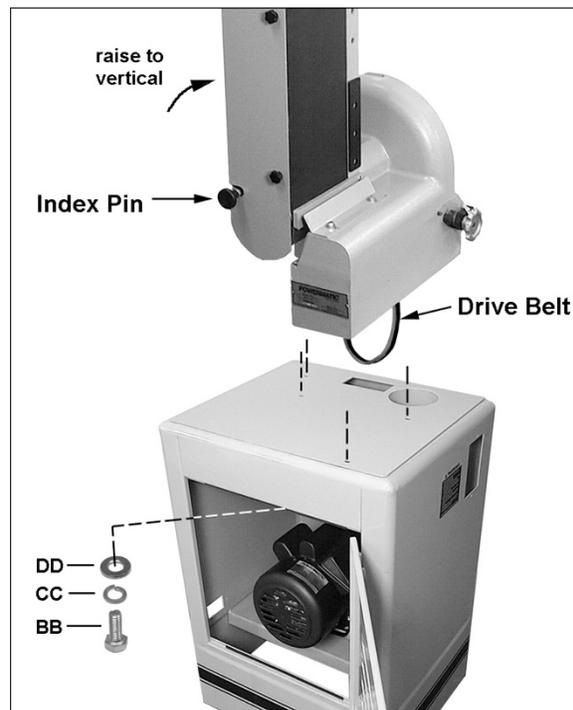

Figure 5
Refer to Figure 5:
2. The sander is shipped with the belt arm in horizontal position. Pull out on the *index pin* and raise the arm to vertical position, as shown in Figure 5. This will better balance the sander as you place it on the stand. Allow the index pin to pop back in to ensure the belt arm is secure.
4. Secure the sander to the stand with four M8 x 25 *hex head screws* (BB), four M8 *lock washers* (CC) and four M8 *flat washers* (DD). **NOTE:** Hand tighten the screws only until all four are inserted; then tighten them completely with a 13mm wrench.